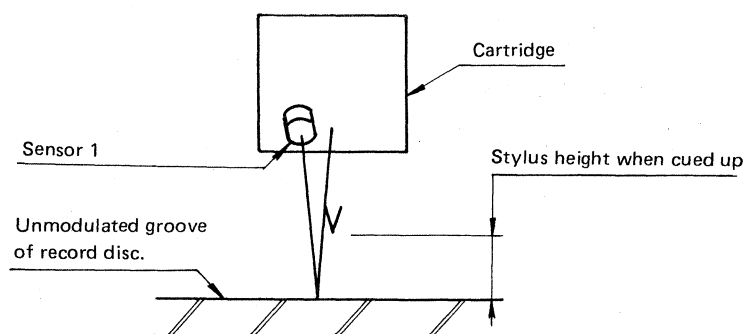

Figure 21 Viewed from cartridge front
- (1) Adjustment of sensor 1 to detect unmodulated groove between each program at tonearm up-mode. (See Fig. 21)